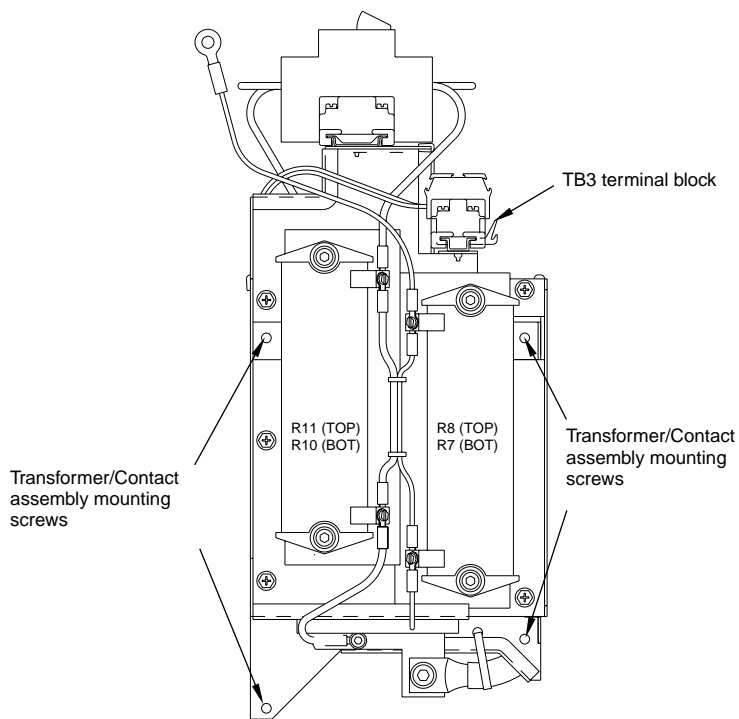

Figure 4.1.30: Transformer/Contactor Assembly Front View
3. Using a flat blade screwdriver, loosen the right side terminal screws on TB3 (see Figure 4.1.30 on page 4.1.75). Remove the right side control wires from the terminal block assembly.
6. While supporting the transformer/contactor assembly, use a drive socket with a 12" extension to loosen and remove the four transformer/contactor assembly mounting screws (see Figure 4.1.30). Remove the assembly.
4. Position the transformer/contactor assembly over the four mounting holes. While supporting the transformer/contactor assembly with one hand, install the two bottom transformer/contactor assembly mounting screws (see Figure 4.1.30 on page 4.1.75) with other hand. Use a drive socket with a 12" extension to tighten the two screws.
- 12" extension piece (the tape will help hold the screw in the socket). Insert one of the mounting screw heads into the socket. Thread the 12" extension piece with socket and screw through the upper left opening in the transformer/contactor assembly. Using the drive socket, install and tighten the transformer/contactor assembly mounting screw (Figure 4.1.30 on page 4.1.75).
12. Install the TB3 control wires into their respective locations on the TB3 terminal block assembly (see Figure 4.1.30). Torque the TB3 terminals to 12 lb-in (1.4 N•m).